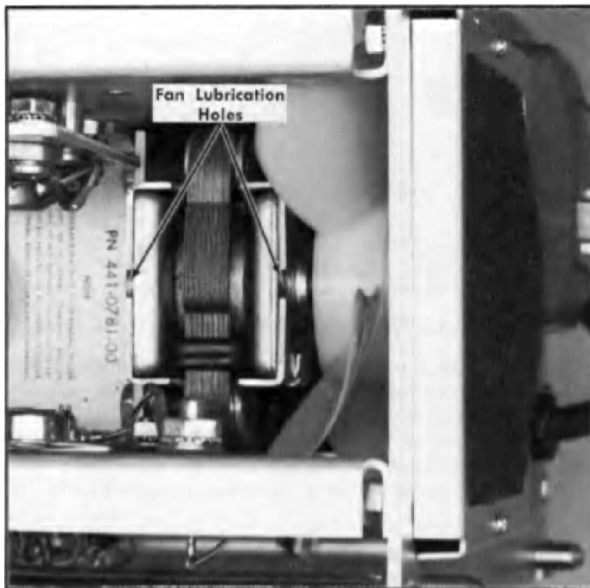

Fig. 4-1. Location of lubrication holes in fan (right side).
**Fan.** It is recommended that the fan-motor bearings be lubricated every 1000 hours. Fig. 4-1 shows the lubrication holes in the fan. Place a few drops of light machine oil in the holes. Remember that too much lubrication is as harmful to the fan motor as too little lubrication.